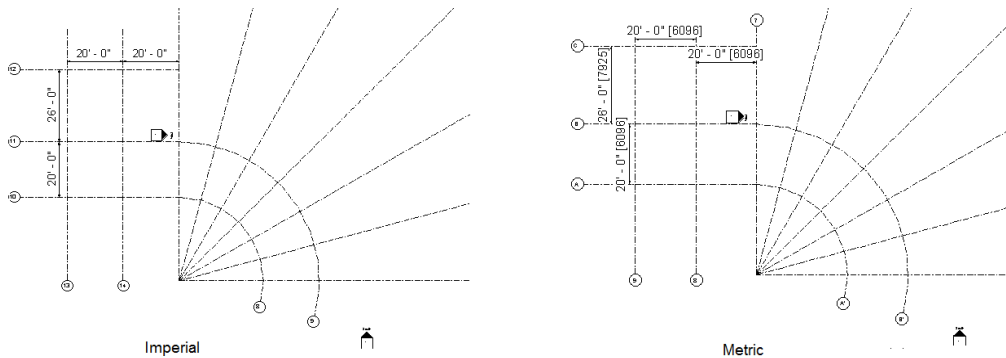

Figure 3-61 The dimensions of the remaining grid lines
21. To complete the grid pattern for the project, invoke the **Grid** tool and use the **Line** tool from the list box in the **Draw** panel of the **Modify | Place Grid** tab, to create the remaining grids with the specified distance, as shown in Figure 3-61.